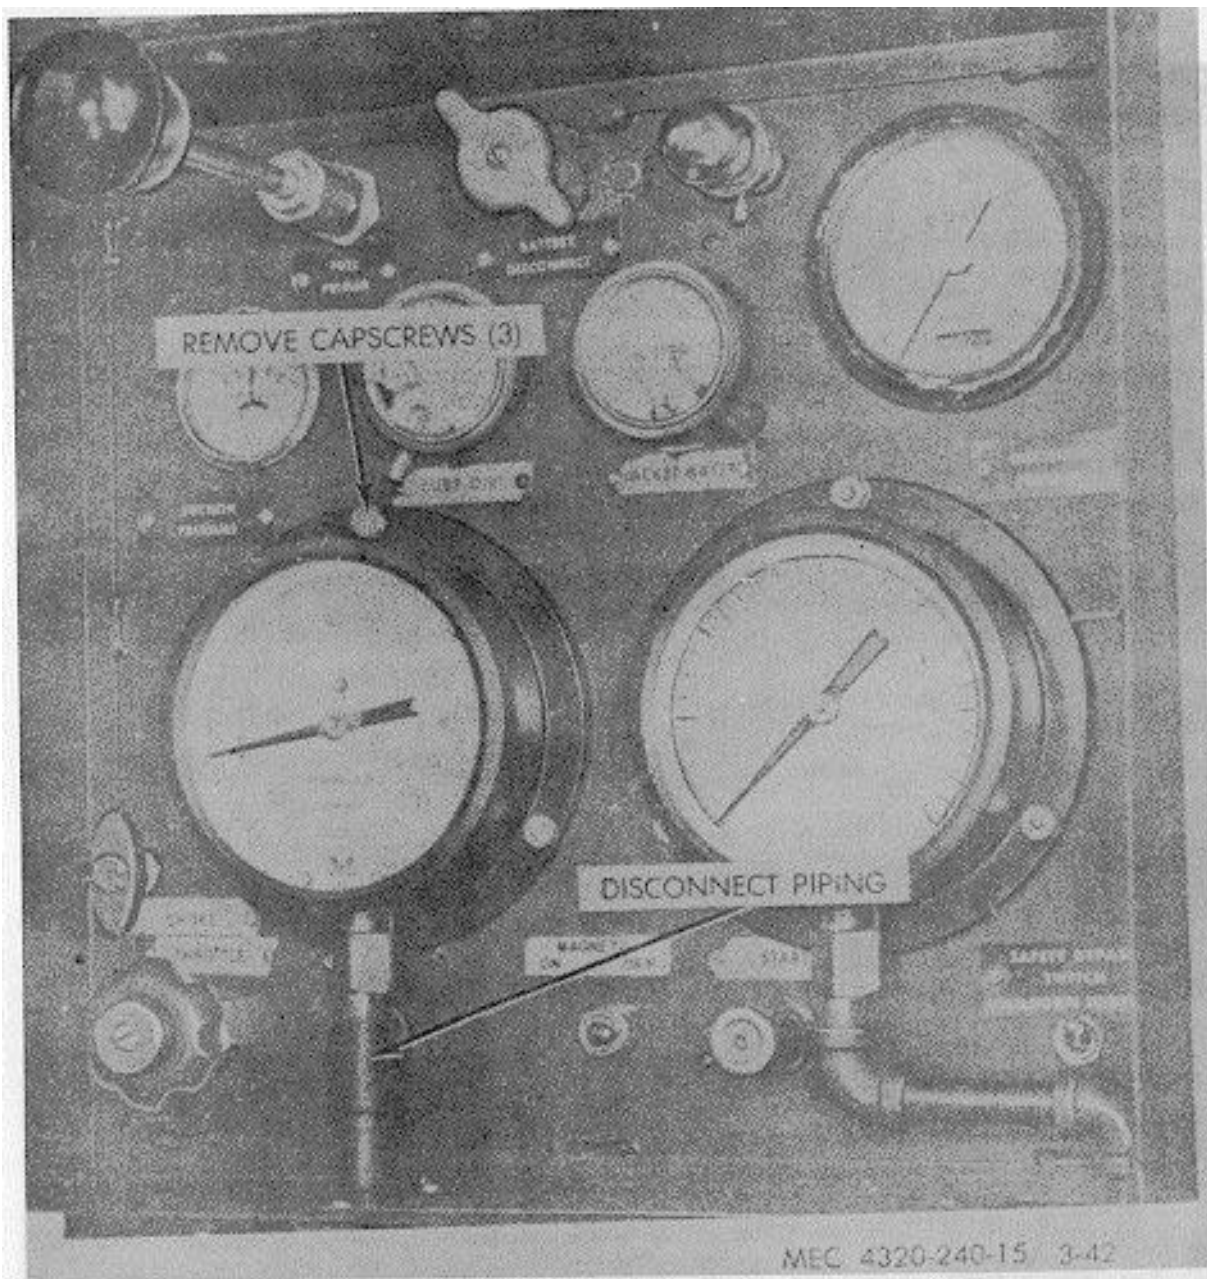

Figure 3-42. Intake pressure gage removal and installation.
- a. Removal. Refer to figure 3-42 and remove the suction pressure gage.
- b. Installation. Refer to figure 3-42 and install the suction pressure gage.